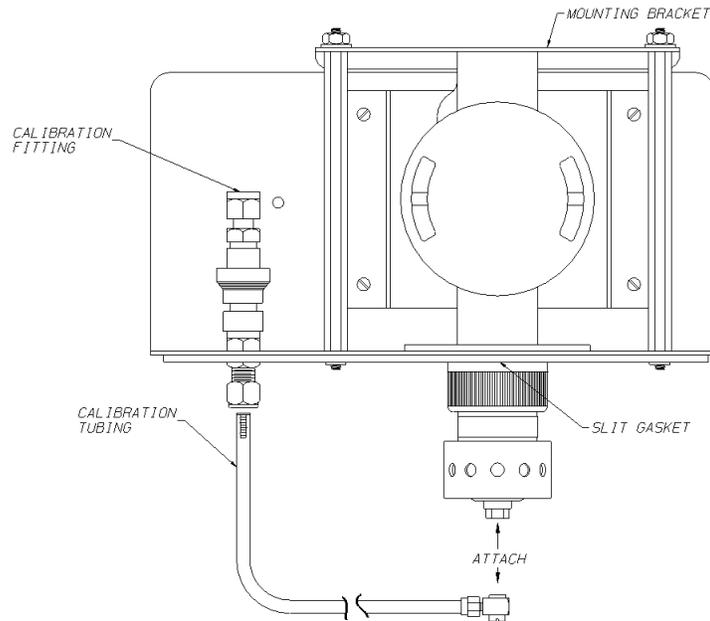

Fig. 51 Duct Mount and Sensor
- (17) Push the Remote sensor Toxgard II Gas Monitor through the slit gasket on the Duct Mount base plate (Fig. 51 "Duct Mount and Sensor").
- (18) Fasten the sensor module bracket to the base plate using the 10-32 screws removed in step 15.
- (19) Fasten the calibration tubing fitting into the center post of the SensorGard (Fig. 51 "Duct Mount and Sensor").
- (20) Locate the two Remote sensor Toxgard II Gas Monitor spacers. Screw one end of each spacer into the Duct Mount Kit base plate.
- (21) Place the Remote sensor Toxgard II Gas Monitor clamp on the top of the spacers.
- (22) With the 1/4-inch hex nut and lock washers, secure the clamp onto the spacers (Fig. 51 "Duct Mount and Sensor").
- (23) Clean the area around the hole made in step 2.
- (24) Remove the protective paper backing from the gasket found on the bottom of the Duct Mounting flange.
- (25) Install the entire assembly on the duct. Use proper fasteners to secure the Toxgard II Gas Monitor Duct Mount to the duct.
- (26) If necessary, tape or seal around the sensor gasket to prevent leaks.
- (27) Remove the top half of the calibration fitting and connect it to your calibration tubing.
- (28) Install the read-out module by following the mounting instructions in the instruction manual for the single module model.
- (29) Refer to the instruction manual for wiring details.